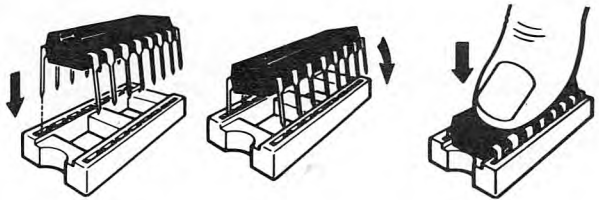

Figure 2-5. Installing the 8087-2 chip.
6. Install the 8087-2 chip. See Fig. 2-5.